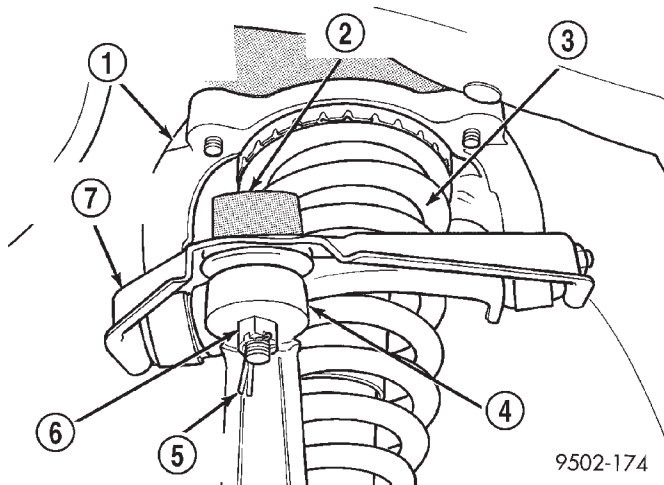

Fig. 37 Upper Ball Joint Attachment To Steering Knuckle
(14) Separate the steering knuckle from the outer C/V joint. Separate steering knuckle from outer C/V joint, by supporting the driveshaft while pulling
(15) Remove the cotter pin and nut (Fig. 37) from the upper ball joint stud to steering knuckle attachment.